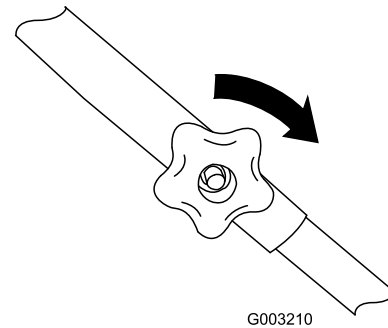

Figure 5
3. Install the bolts and upper handle knobs with the knobs on the outside of the handle, tightening the knobs as tight as you can (Figure 5).